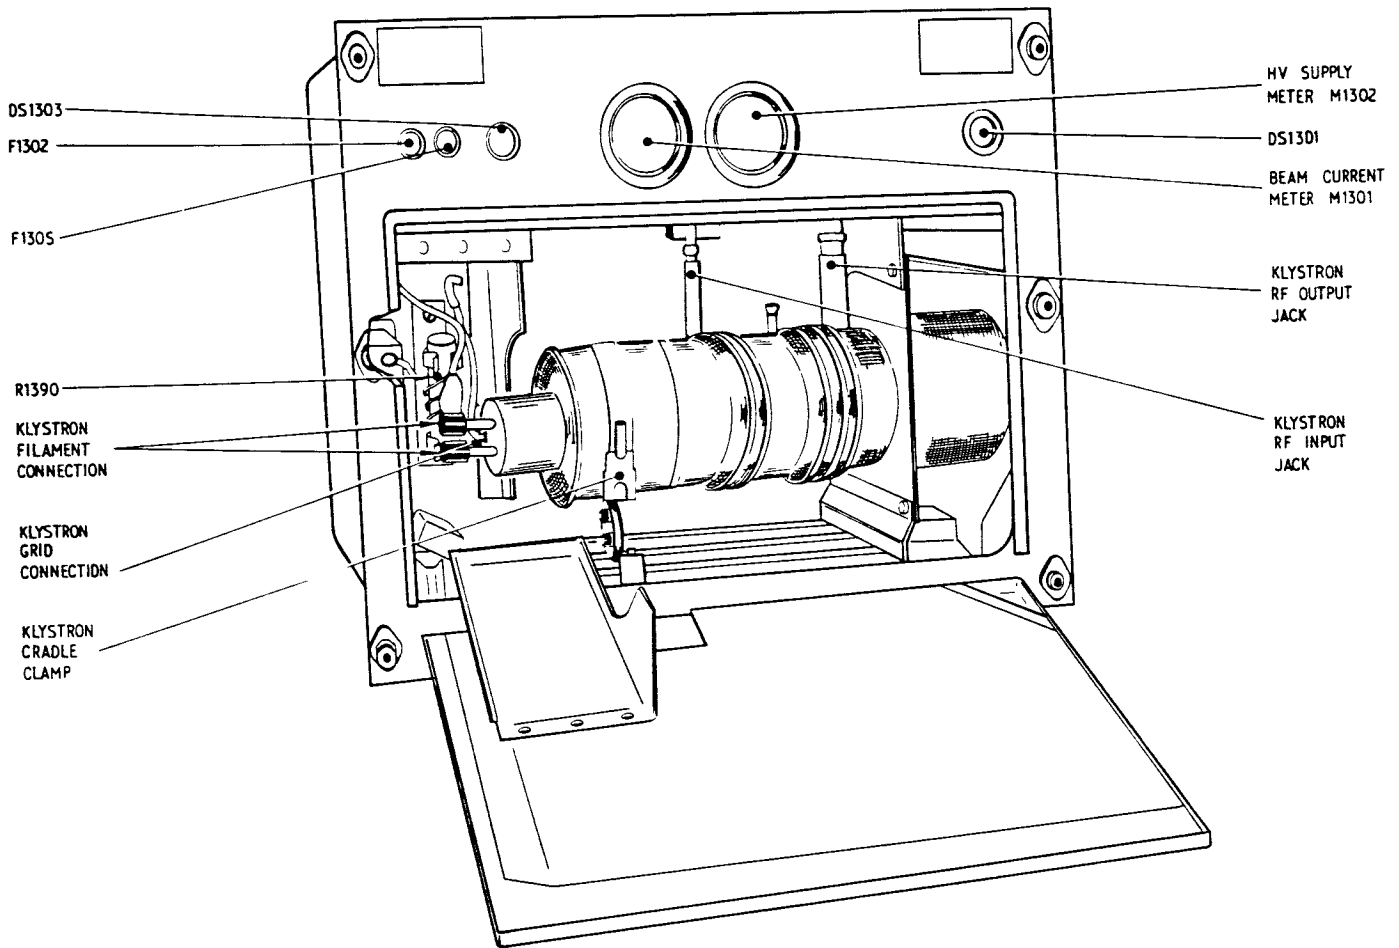

Figure 2-7. Amplifier Modulator AM-1701/URN, Front View with Klystron Access Door Open
The klystron V1304 should be installed in accordance with the procedure outlined below (figures 2-7 and 2-8).
Step 2a. Remove the klystron access panel from the front of the Amplifier Modulator drawer, see figure 2-7.